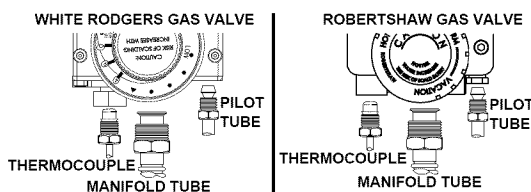

FIGURE 22.
6. Disconnect the thermocouple (right-hand thread), pilot tube, the igniter wire from the igniter button, the two connectors attached to the thermal switch, and manifold tube at the gas control valve/thermostat. (Figures 22 & 23.) **NOTE:** L.P. Gas systems use reverse (left-hand) threads on the manifold tube.
5. Disconnect the igniter wire from the igniter. **NOTE:** There are two types of igniters. If you have the square igniter, slide the igniter bracket backwards away from the gas valve to remove it. If you have the round igniter, first remove the igniter from the bracket by depressing front and rear holding tabs and lift. Next remove igniter bracket from the gas valve. Disconnect the thermocouple (right-hand threads), pilot tube, and manifold tube at the gas control valve/thermostat (Figure 22). **NOTE:** L.P. gas systems use reverse (left-hand) threads on the manifold tube.